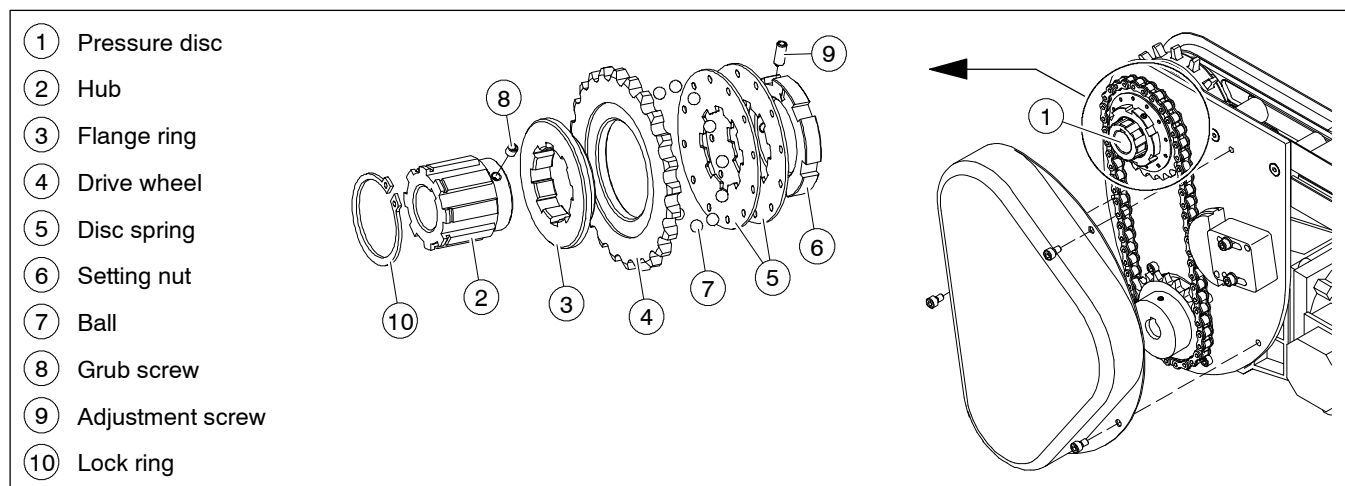

Fig. 10: Configuration of slip clutch
- Remove pressure disc (see Fig. 10) to read the scale.
On all drives with belt reducing or chain gears (except centre drives), the chain-pulling force transferred can be reduced by about a half by removing a disc spring (see Fig. 10).